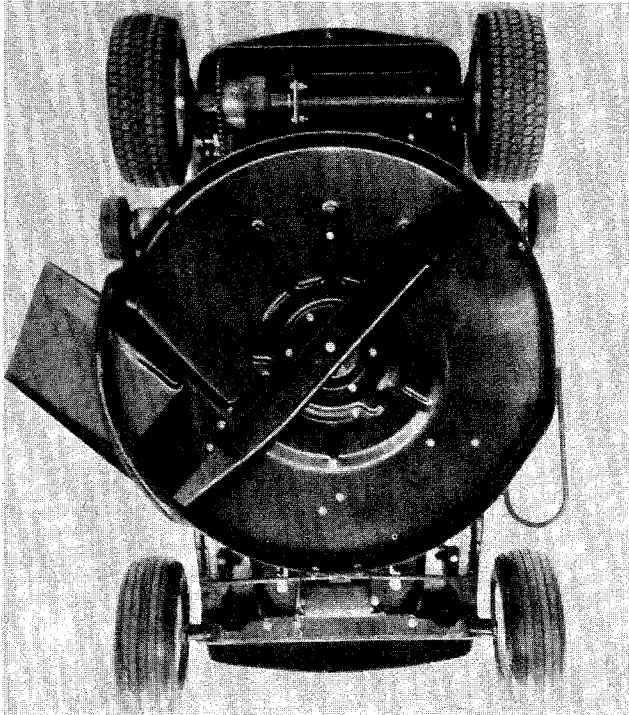

FIGURE 32.
4. Tip the rider up on its back wheels. See figure 32. Tipping unit up against a wall is recommended.